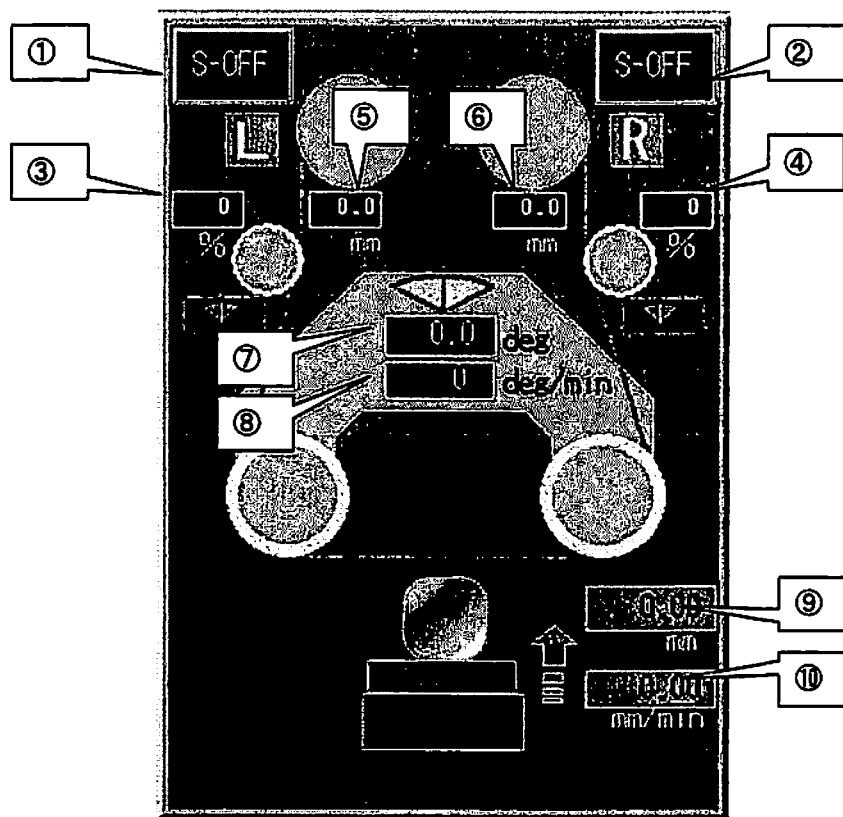

Fig 14-4-6(2) Manual screen common parts monitor part
(1) Monitor part . . . Refer to enlarged view shown in Fig 14-4-6(2).